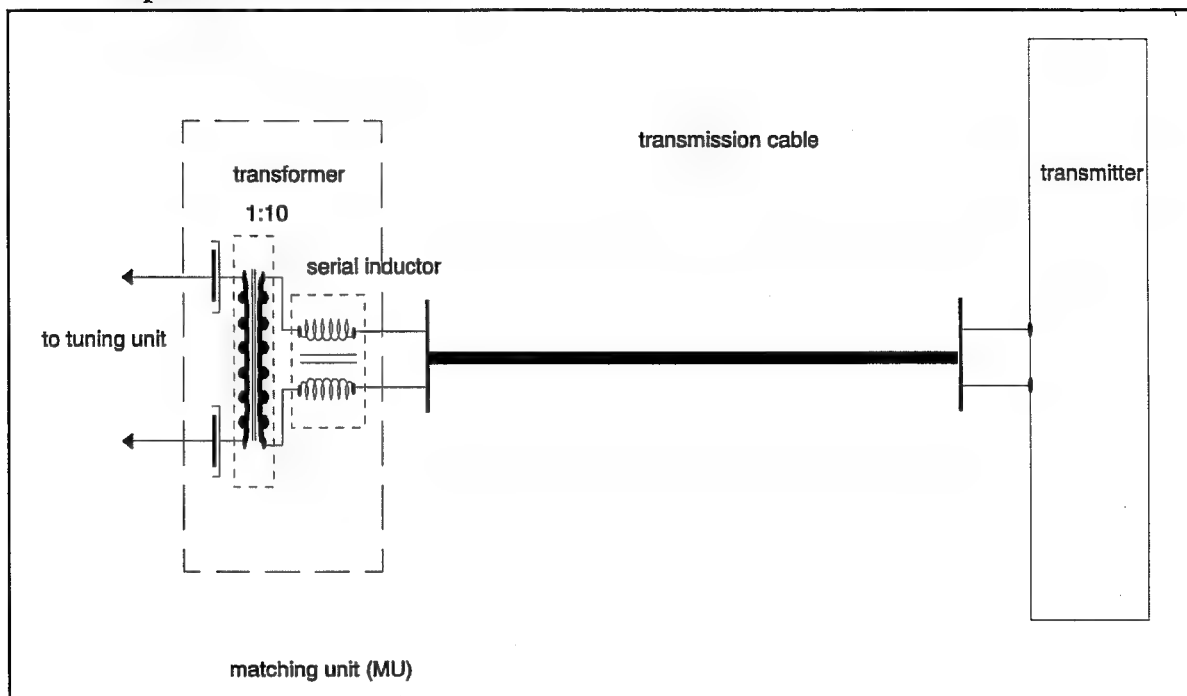

Figure 18
4.7.1 Principle of operation (fig.18)
- In transmission on ESJ, IRJ or IT, the transformer is coupled to a ratio of 10 (Fig.18).